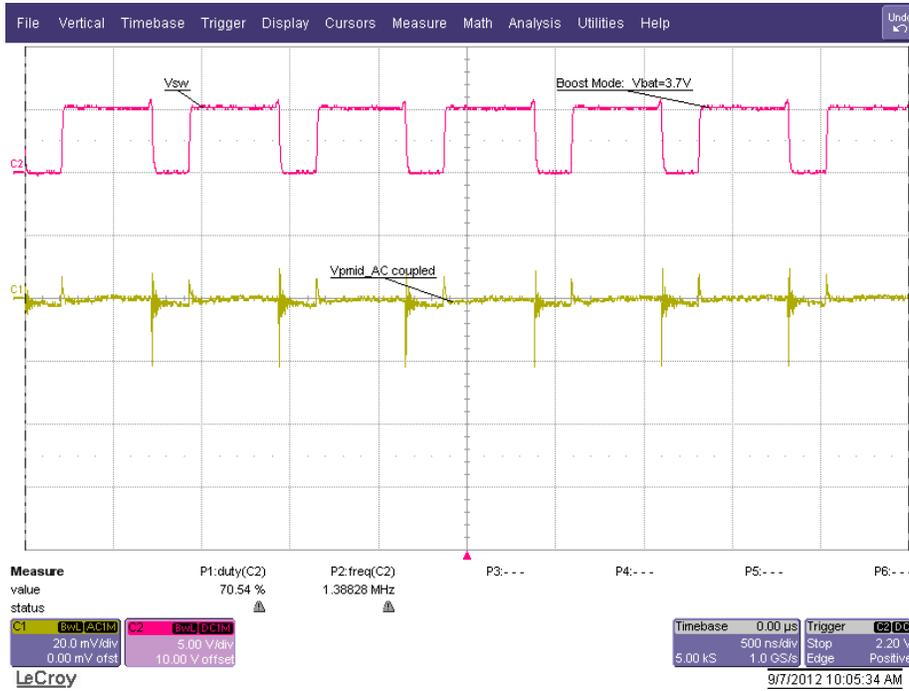

Figure 6. Boost mode Ripple and Duty Cycle; VBAT = 3.7V.
- g) h) Verify scope measurement (See Figure 6).